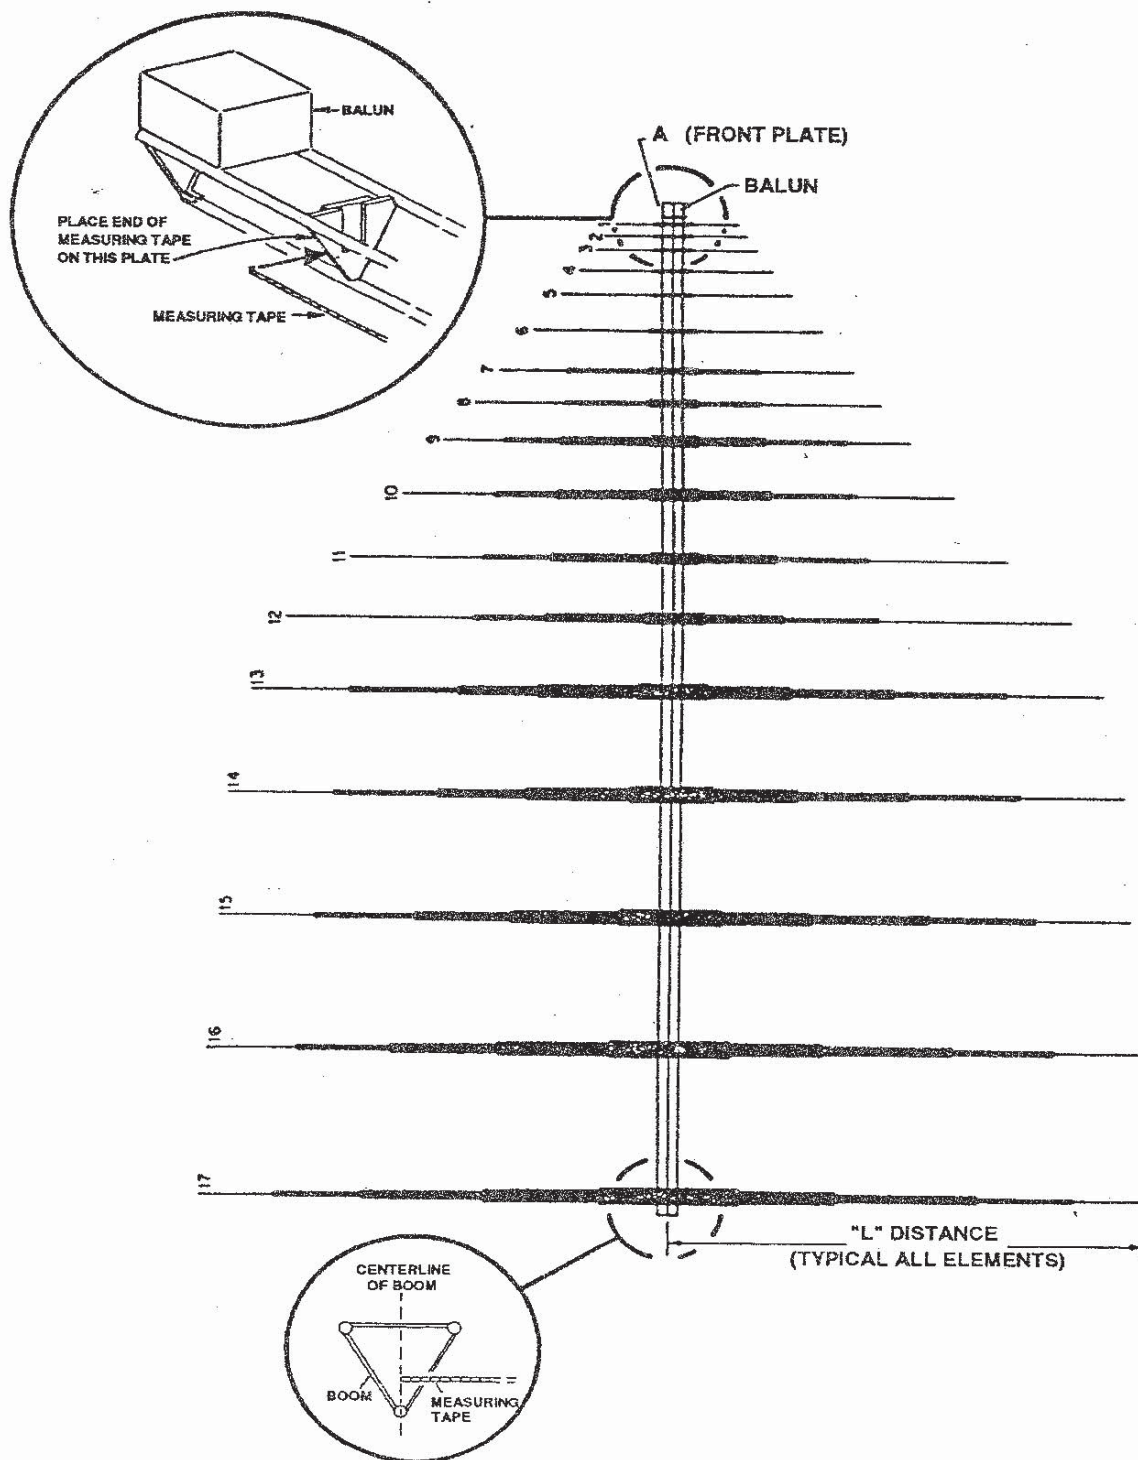

Figure 2-44
Refer to Figure 2-44 on page 64.
- s. Check all element lengths by referring to Table 2-5 and Figure 2-44. Each element must be the exact length as specified in Table 2-5.